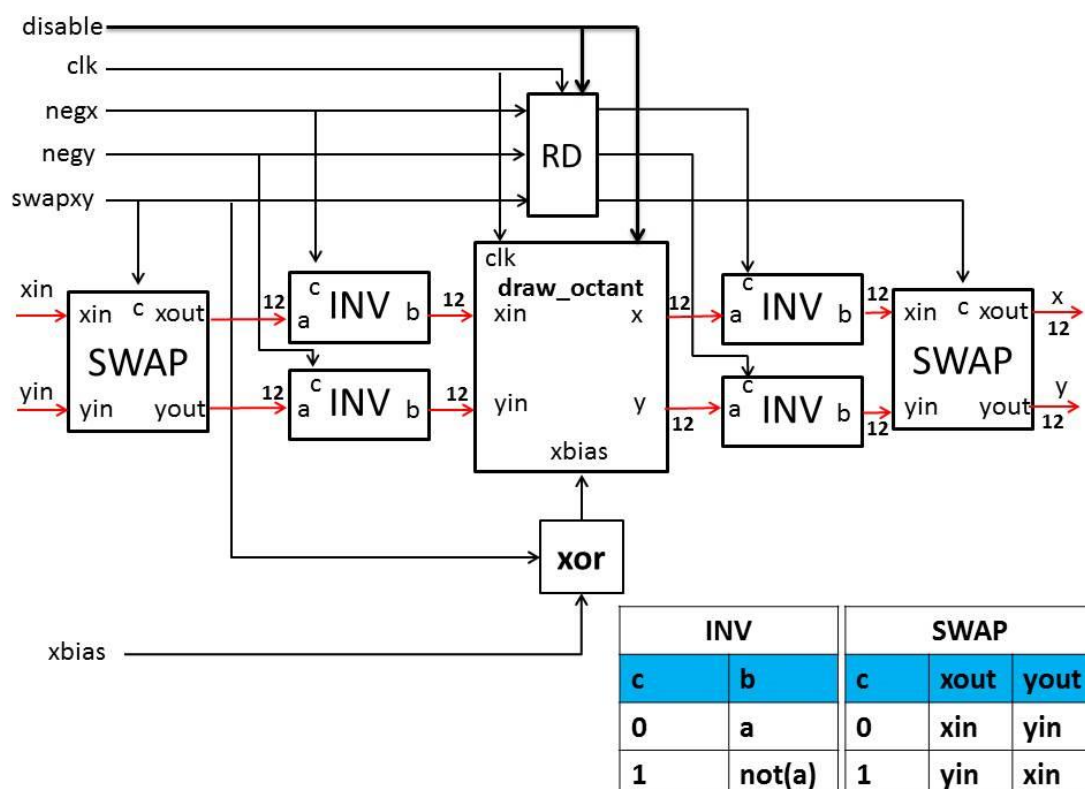

Figure 2
If the x direction numbers have bits inverted on input and output this transforms $x \rightarrow \text{not}(x)$ reflecting all coordinates in a vertical line and the entity will draw lines in direction West North West. If the x and y numbers are swapped $(x,y) \rightarrow (y,x)$ the entity will draw lines in North North East quadrant. Two hardware blocks which implement inversion and swapping are shown in Figure 2.
Figure 2 shows hardware which implements swapping X & Y, or inverting the bits of X, or inverting the bits of Y. The 8 possible combinations correspond to 8 possible octants. All blocks are combinational except for those with clk shown as input. The XOR block is a two input **xor** gate. The **swapxy**, **negx**, **negy** inputs control **xin**, **yin** inputs directly, however they must therefore be delayed by one cycle in a 3 bit D type register shown as RD in Figure 2 to match **x** & **y** in the next cycle.
- Write an entity **draw_any_octant** which implements Figure 2 and passes the provided testbench as required in the assessment section.
- Note that some ports of **draw_octant** are left out of Figure 2, all such ports must be connected directly to similarly named ports on **draw_any_octant**. See skeleton file for a suitable entity for **draw_any_octant** which contains these ports.
- Design your **draw_any_octant** entity so that it will accept a generic integer parameter **vsize** which determines the size of the pixel coordinate vectors shown in red in Figure 2. This size can thus be different from 12.